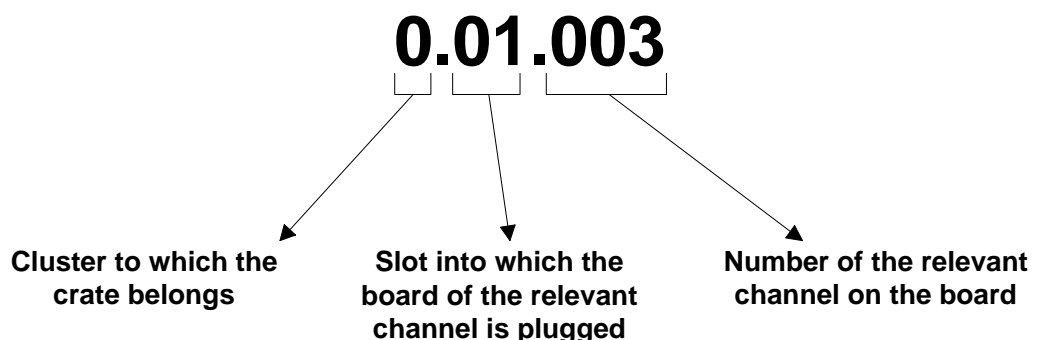

Fig. 4.2 – Complete Channel address
**CH #** is the physical name of the channel which corresponds to its complete address (refer to Fig. 4.2).